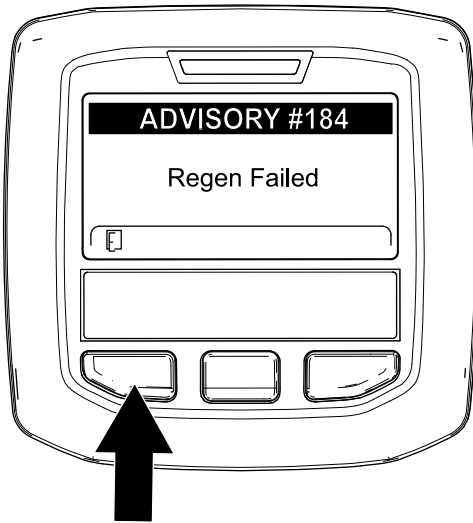

Figure 67
**Note:** If the regeneration fails to complete, the InfoCenter displays Advisory #184 (Figure 67). Press the left button to exit to the home screen.